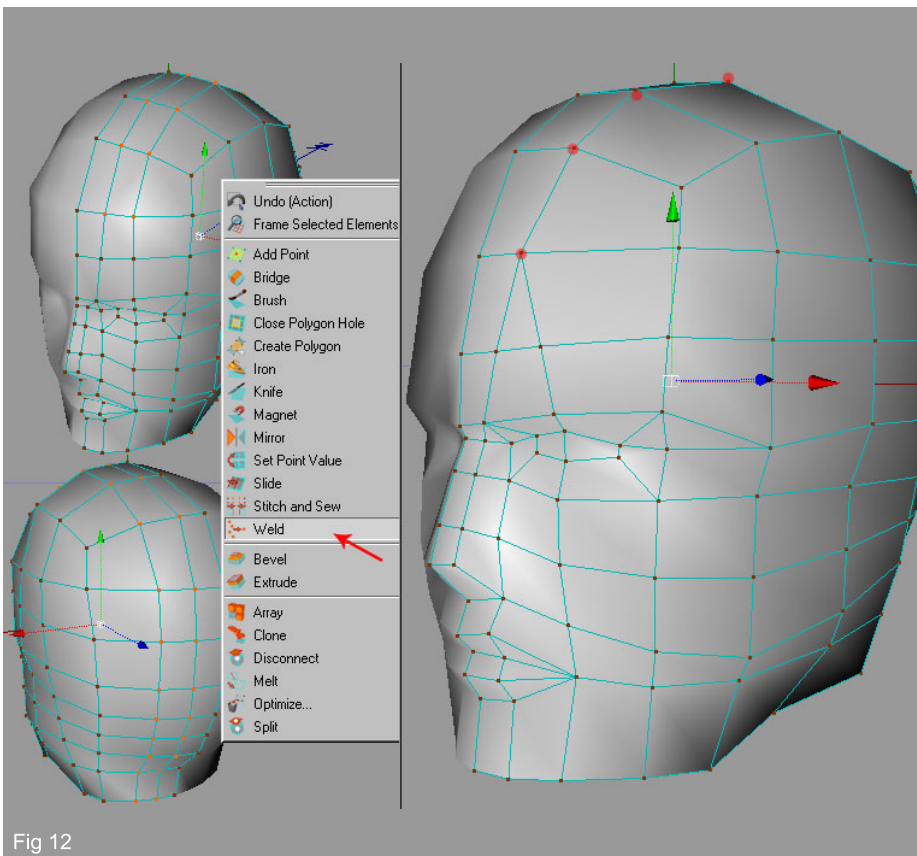

Fig 12
12. As we gradually refine our model we inevitably add more detail but sometimes it is useful in low poly characters to actually remove unnecessary detail that can be supplemented by a texture. At the moment we have six rows of polygons running over the top of the head – more than we really need. We will now weld the marked vertices in fig 12. Select two points each time, right click and choose Weld from menu. Repeat this operation until you get the mesh as shown.